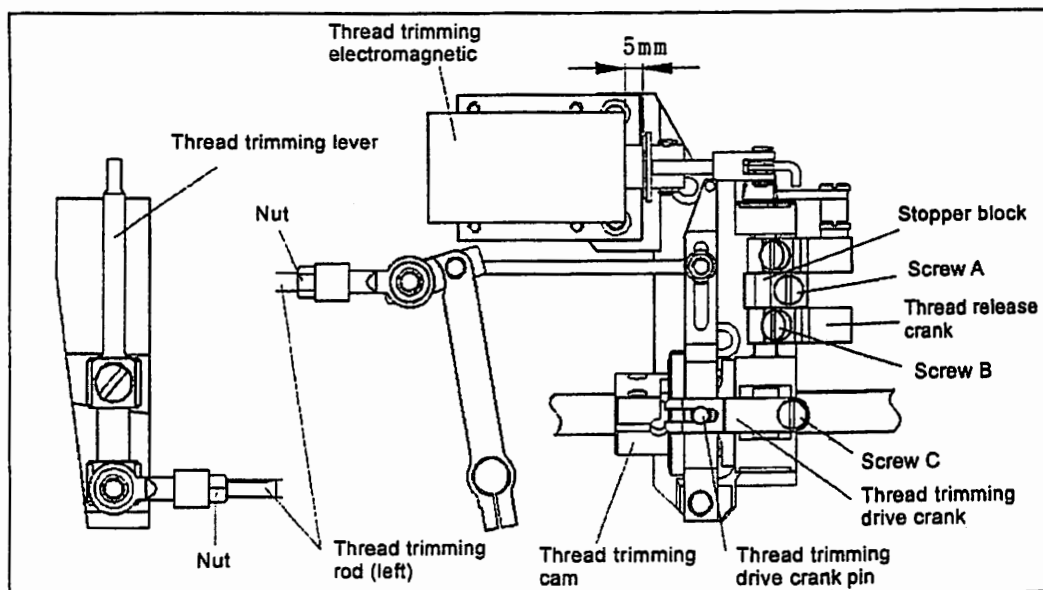

Fig.24
- 1)Lean the machine head backward, screw out the bottom cover screw (1) of hook saddle, open bottom cover (2).
- 3)Loosen thread finger cam screw (3), adjust thread finger cam (4), make thread finger site on the nearest position of hook, and then retighten thread finger cam screw.
- 4)Loosen hook opener screw (5), adjust the distance between thread finger and hook is 0.3-0.4mm.
33. The thread trimming device adjustment(Fig.24)